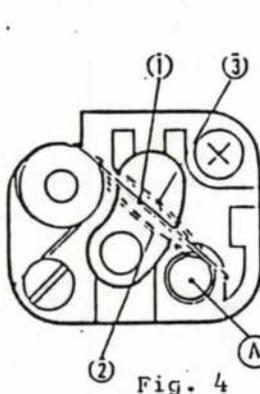

Fig. 4
- 2) Set the power switch D "ON" LEDs P and BD on both sides of Light source and L.panel light up.(Fig.4)
- 1) Clean the trigger spring (1) and the trigger pin (A) with ether. (Fig. 4 )